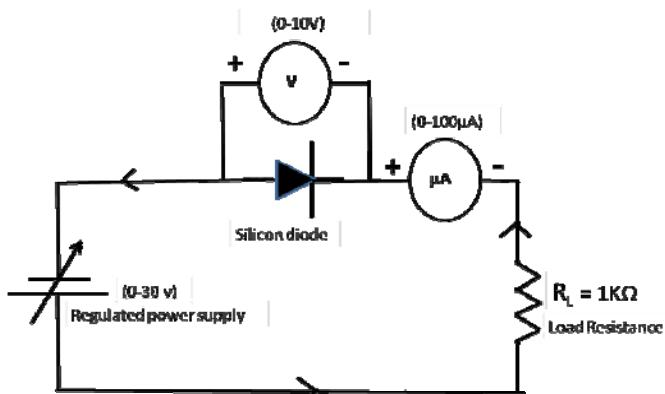

Fig.05: Reverse bias
1. Connect the p-n Junction diode in reverse bias. (Fig.05)